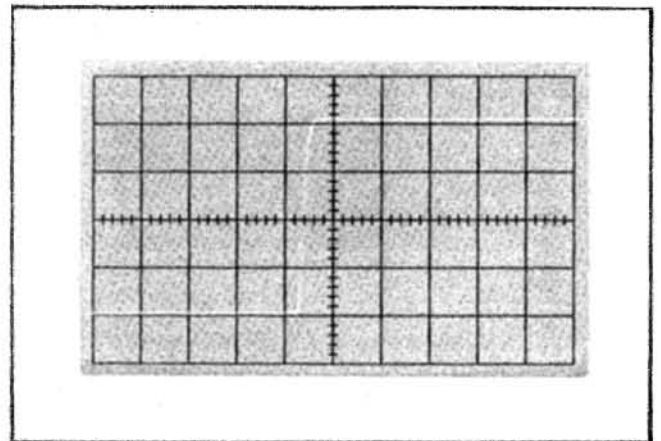

Fig. 5-3. Typical CRT display showing correct high-frequency compensation.
e. CHECK—CRT display for optimum square-wave response similar to Fig. 5-3 with peak aberrations not to exceed +2% or -2%, or total aberrations not to exceed 3% peak to peak.